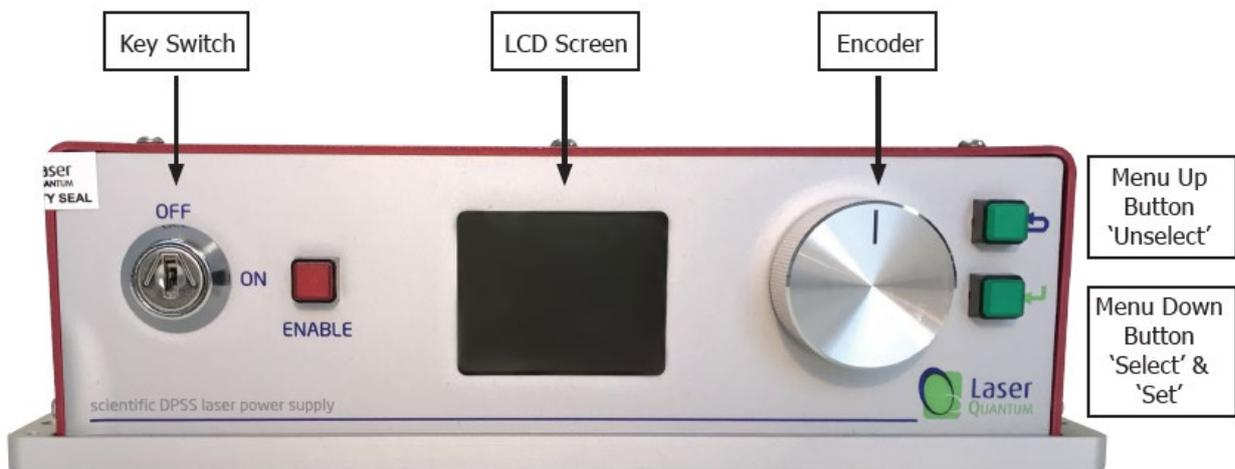

Figure 4-1
- 6 Using the Encoder and Menu Up/Down buttons (see Fig 4.1) the operation current or power can be adjusted (see Section 5: Front Panel Controls).